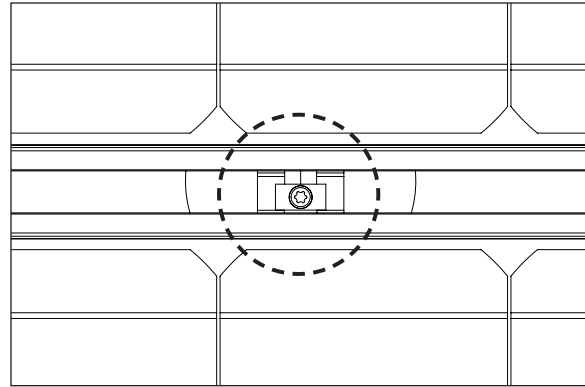

Figure 5.10G
4. Install the Leveling Feet along the top of the row according to the design drawings and rest it on the roof or attachment hardware. Check that the Module is seated onto the Zep tongues at the desired location. If there is a gap that is not needed to take up tolerances (Figure 5.10G), lift the Module to 15° and re-seat while applying pressure towards the Zeps.